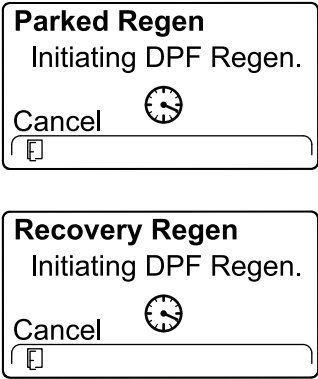

Figure 56
- The InfoCenter displays the INITIATING DPF REGEN message (Figure 56).